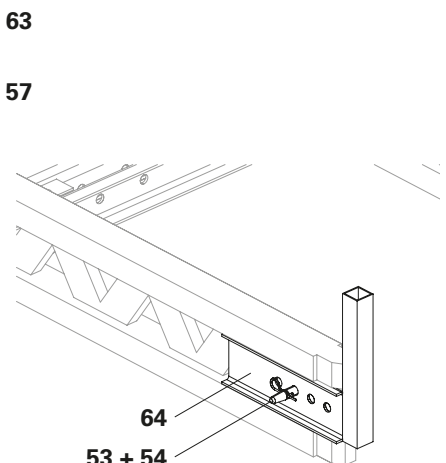

Fig. A6.03
2. Fix the guardrail holder (**64**) to the front and rear sides of the lattice girder using 1x fitting pin Ø 21 (**26**) respectively and secure with cotter pins 4/1 (**27**). (Fig. A6.03)